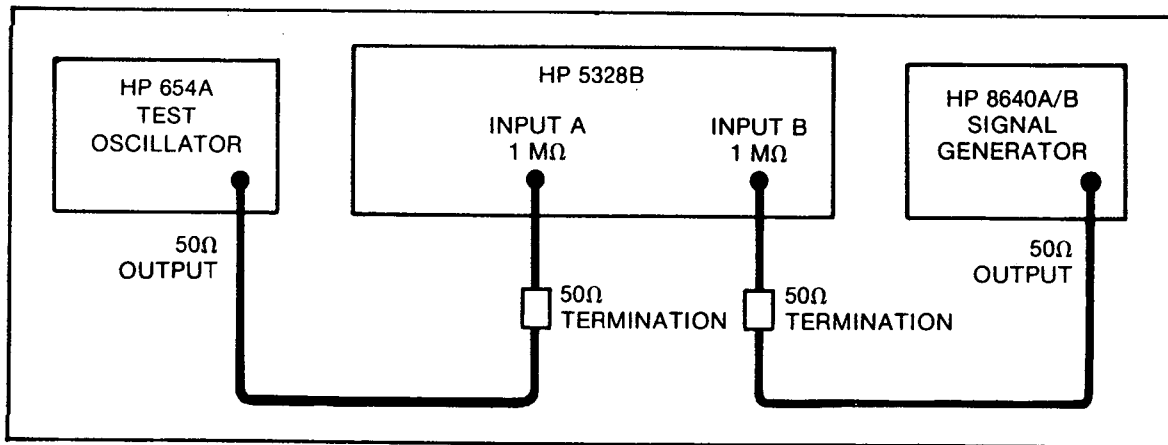

Figure 4-10. Channel B Frequency Response and Sensitivity Test Setup, 10 MHz to 100 MHz
- 1) Set up equipment for this test as shown in *Figure 4-10*.